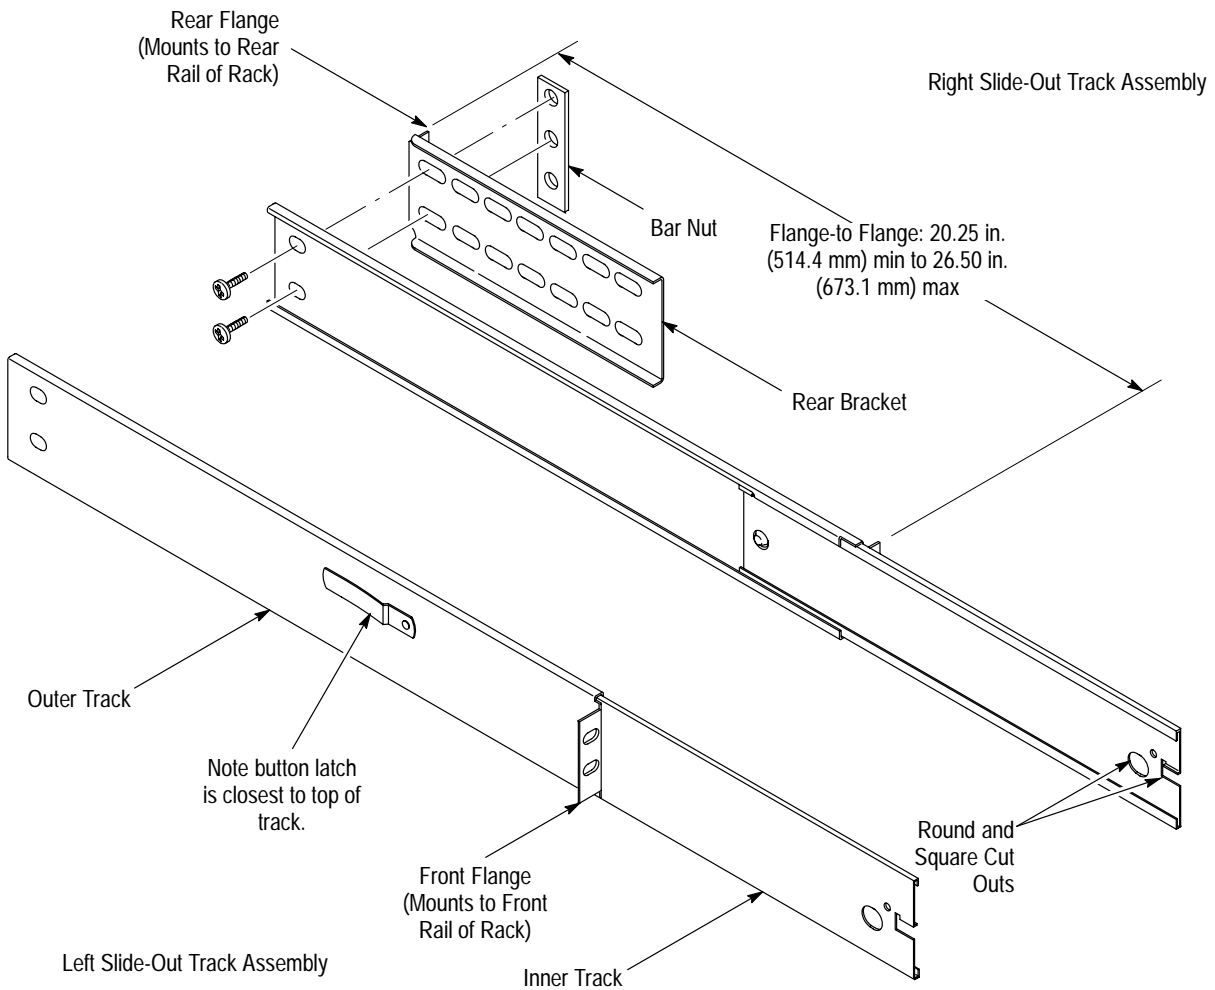

Figure 10: Assembly of Slide-Out Track Assemblies
NOTE. *The slide-out track assemblies that are included in the rack-adaptor kit come partially assembled with the inner tracks inside of the outer tracks. Leave them partially assembled to simplify their installation and to avoid accidental swapping of their inner tracks. (See WARNING above.) If assemblies are disassembled, use Figure 10 to match left and right slides. (Note that when the left and right tracks are oriented as shown, the round cutout is below the square cutout at the end of the both inner tracks.)*
- c.** Align the rear bracket to the right slide-out track as shown in Figure 10. Note the rear bracket has multiple pairs of mount-through holes. When aligning the bracket and track, be sure to select a pair of holes that mount the rear bracket so the flange-to-flange distance (see figure) matches the front rail to rear rail spacing just measured.